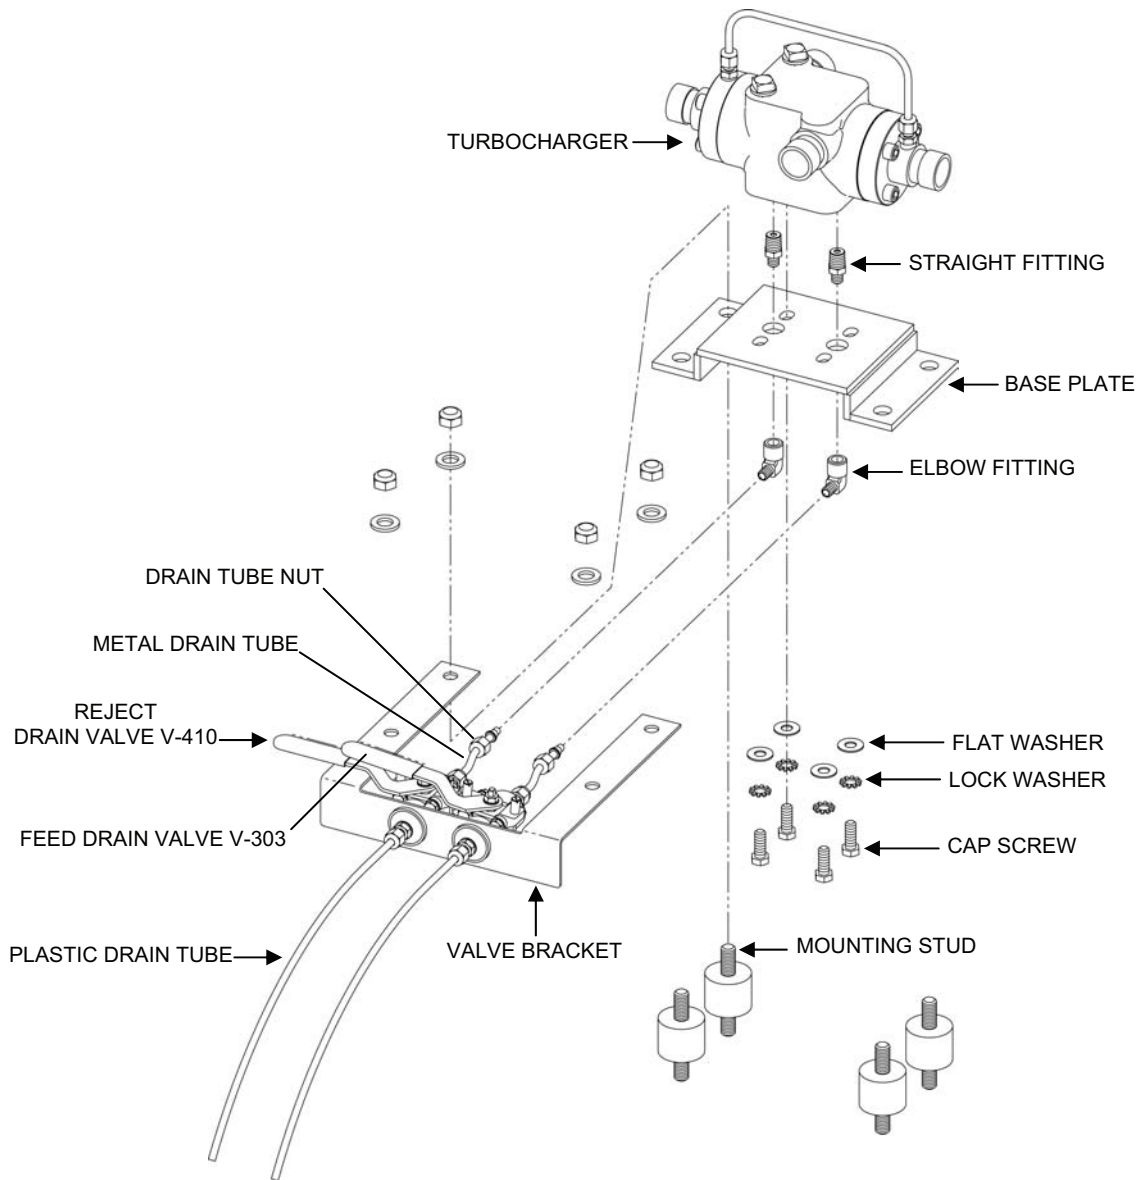

Figure 14. Removal of Pressure Recovery Turbocharger PRT-1 from Its Base Plate.
- f. Remove the two turbocharger plastic drain tubes (see Figure 14).
- h. Remove the turbocharger valve bracket and set aside (see Figure 14).
2. Remove Pressure Recovery Turbocharger PRT-1 from its base plate as follows (see Figure 14):
3. Install the new turbocharger to the base plate as follows (see Figure 14):
- b. Apply corrosion preventive compound to the turbocharger mounting studs that are still threaded into the TWPS floor (see Figure 14).